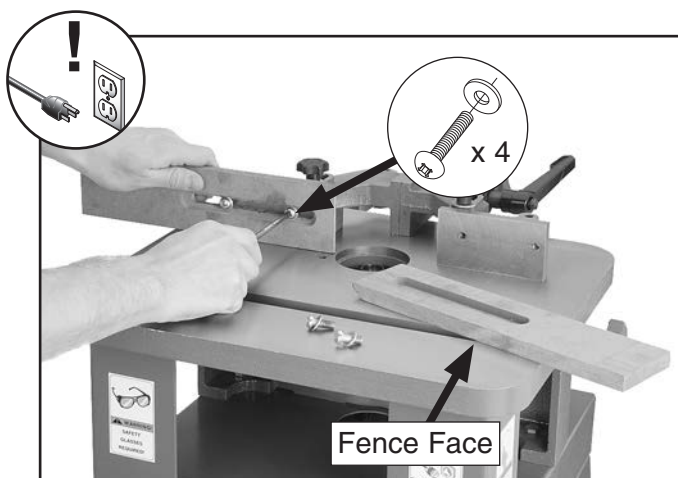

Figure 39. Removing fence faces from fence assembly.
2. Remove fence faces from fence assembly by removing (4) Phillips head screws and flat washers shown in **Figure 39**.